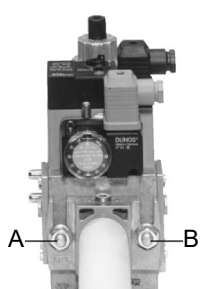
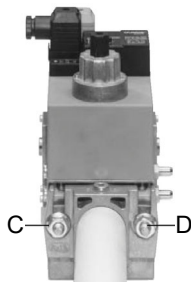
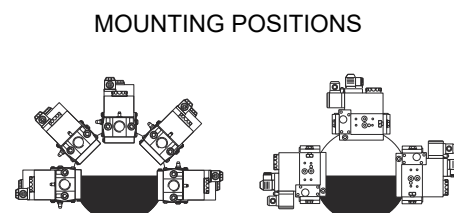

Fig. 1
Fig. 2
Fig. 4
ATTENTION: once the gas train is mounted according to the diagram on Fig. 1, the gas proving test must be performed, according to the procedure set by the laws in force.
- 3 Tighten screws A, B, C and D (Fig. 1 - Fig. 2) according to the mounting positions (Fig. 4)